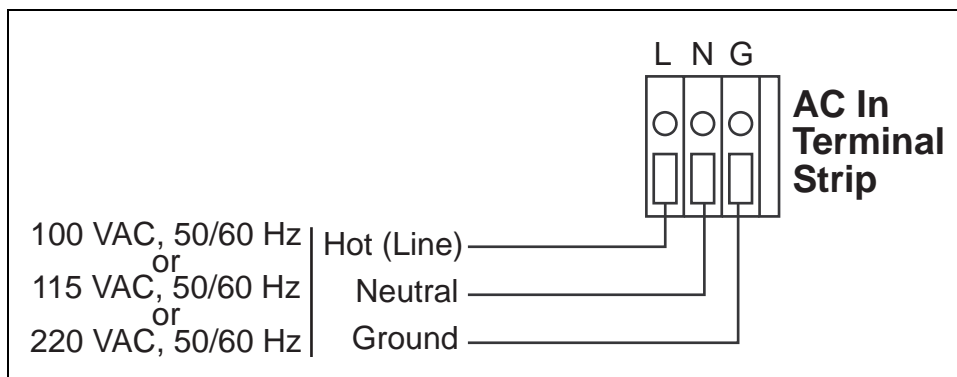

Figure 7: AC Power Wiring
6. Connect the AC wires to the AC power terminal strip as shown in Figure 7 below.